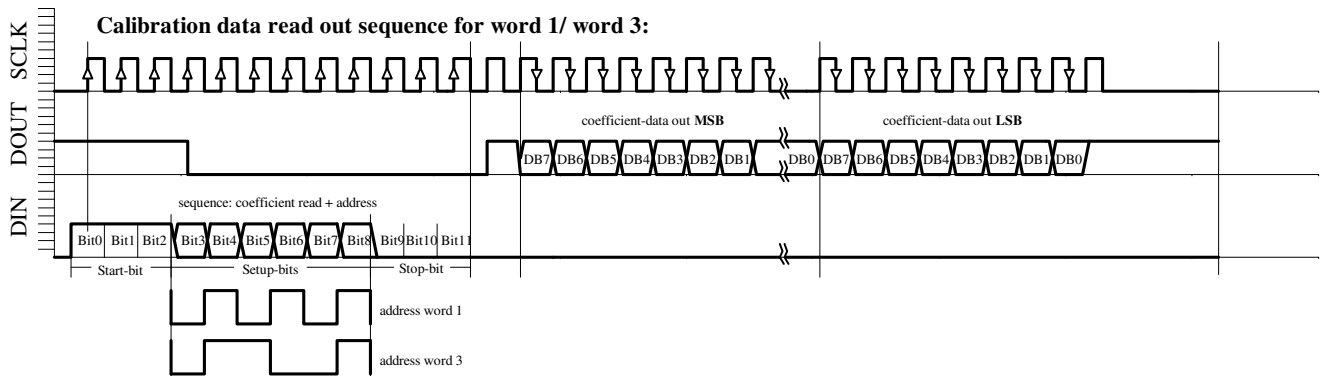

Fig. 6c: W1, W3 reading sequence
- Calibration data read-out sequence for word 1 and word 3 (Figure 6c)